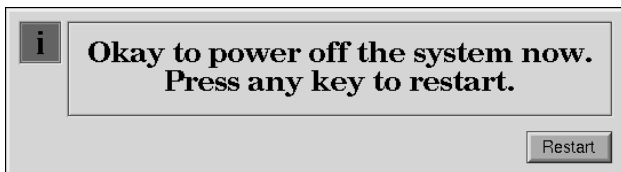

Figure 6-1 Okay to Power Off Notifier
After a few seconds you see the notifier shown in Figure 6-1.
2. When you see the notifier shown in Figure 6-1, click on the *Restart* button.